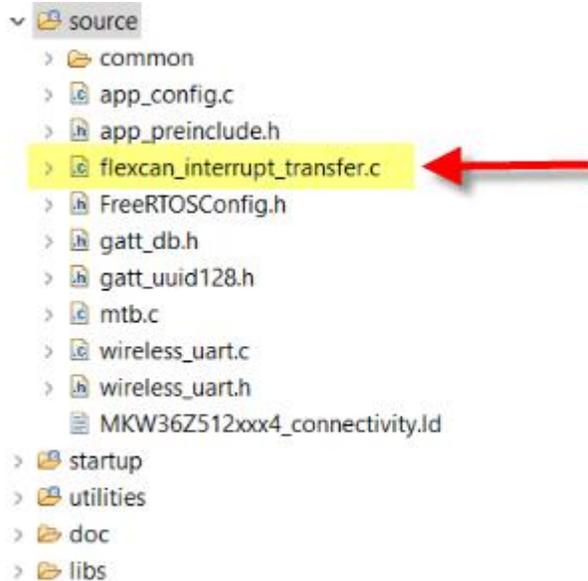

Figure 16. flexcan_interrupt_transfer.c added in MCUXpresso IDE
3. Go to MCUXpresso IDE, click F5 (refresh) and “flexcan_interrupt_transfer.c” file will be added into source folder in your Bluetooth LE project *Figure 16*.